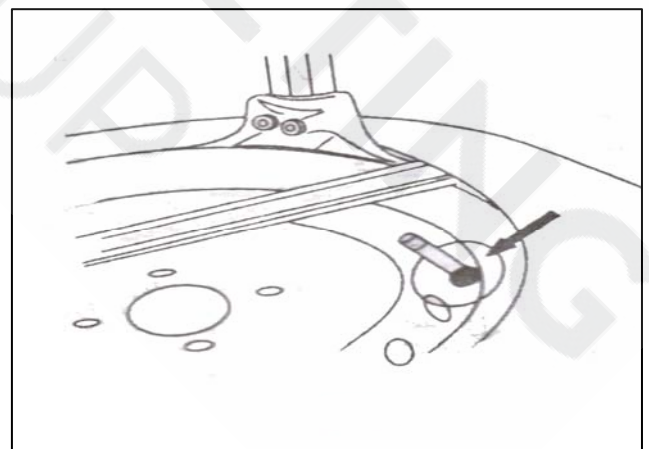

FIG 20
4.1.4 Use the crowbar to detach until the lip to the hump of the demount tool (FIG20). Step the turntable